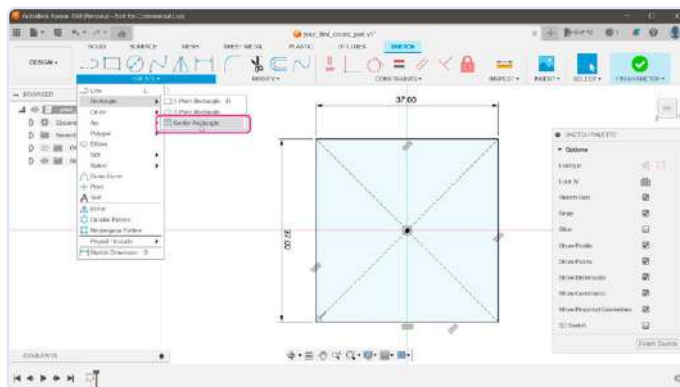

Figure 2: Defining the rectangle sizes.
- 2) Using the caliper, I measured the rotary encoder module size to be 37×37 mm. Let's create a new rectangle to visualize the PCB's size (**Figure 2**). Go to **CREATE** → **Rectangle** → **Center Rectangle**. Once the tool is active, place the first point on the origin. Use a keyboard to type one dimension (37), jump to the next edit field with the **Tab** key, and type the second value (37). To complete the creation process, hit the **Enter** key.